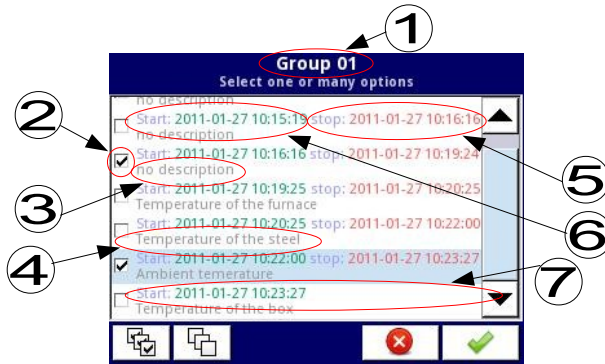

Fig. 7.18. A sample view of selected logged files from Group 1
**Fig. 7.18** presents a sample view of selected logged files from Group 1. The numbers refer to:
- (1) - group number,
- (2) - selected logged file,
- (3) - no description of the logged file,
- (4) - description defined by the user (a description of the logged file is defined in the Groups menu - see **Chapter 7.14.2. Groups - Logging parameters**)
- (5) - date and time of the end of the logged data file,
- (6) - date and time of the start of the logged data file,
- (7) - date and time of the start of the logged data file whose logging has not yet ended.